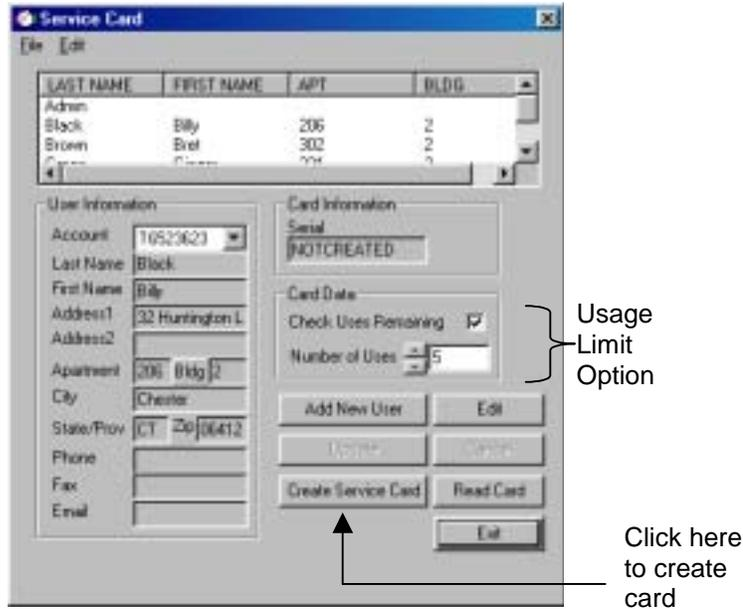

Figure 13.3 Creating a Service Card
3. If this card is to be issued with only a limited number of uses, select the “Check Uses Remaining” option and enter the number of times this card can be used (Figure 13.3).
5. Click the Create Service Card button (Figure 13.3).